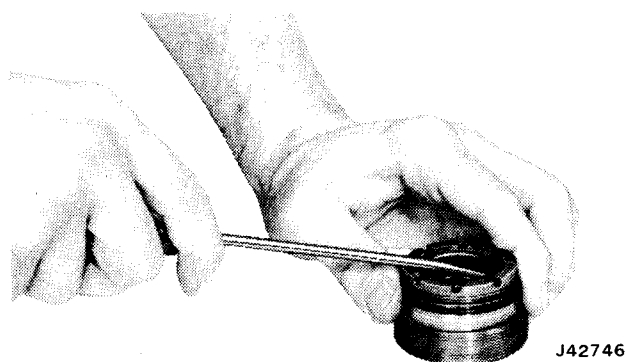

Fig. 11-75 Removal of Thrust Bearing Retainer
(3) Remove thrust bearing retainer using screwdriver (fig. 11-75). Do not score needle bearing bore. Discard retainer.